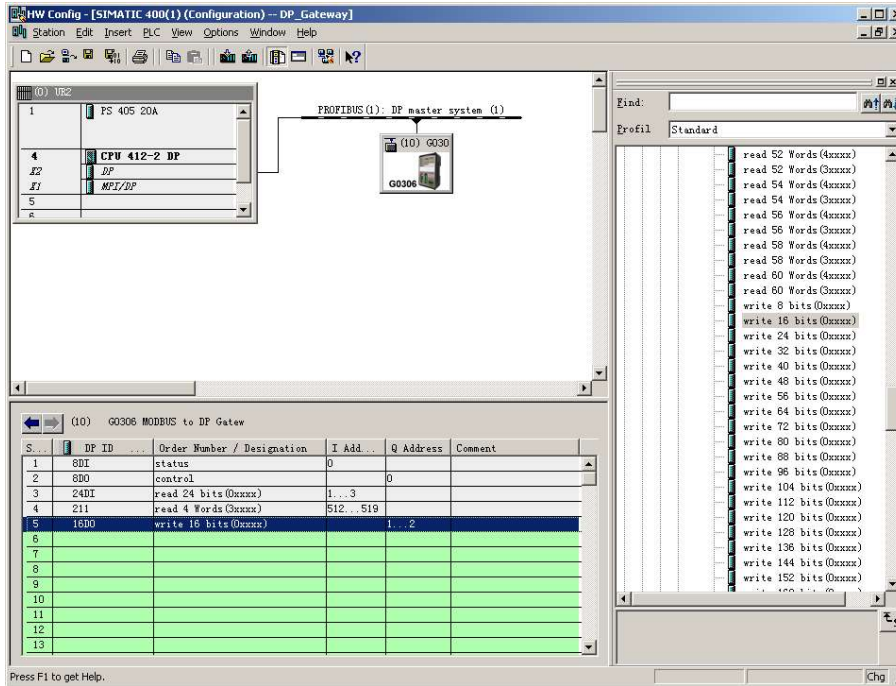

Figure 22 Add "write 16 bits(0xxxx)" module
a) Add the "write 16 bits(0xxxx)" module, as shown in Figure 22: